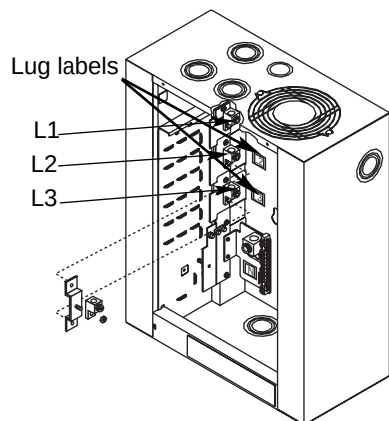

Figure 18: DR6 single-phase assembly
3. Mount L2 lug on single phase strap assembly. See *Figure 18*.